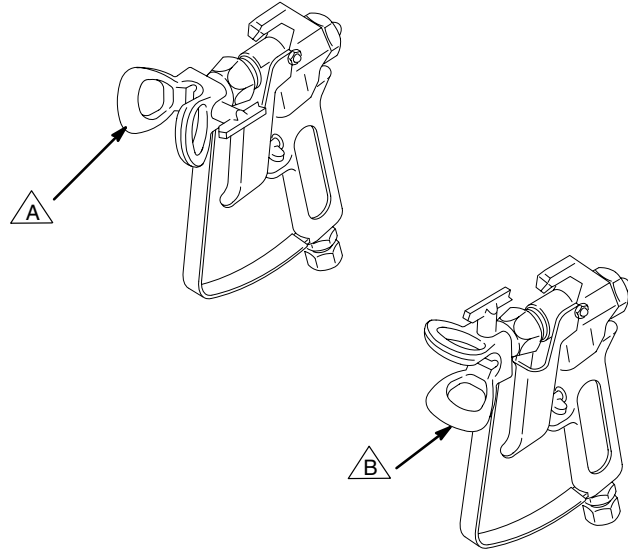

Fig. 9
- c. Test the spray pattern. To adjust the direction of the spray pattern, engage the gun safety latch and loosen the retaining nut. Position the tip guard horizontally for a horizontal pattern or vertically for a vertical pattern. Hold the tip guard in place while tightening the retaining nut. See Fig. 9.